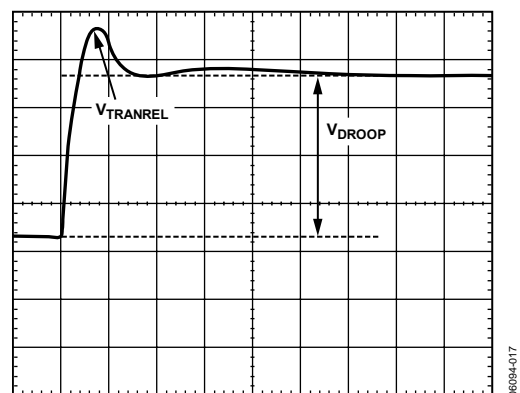

Figure 19. Transient Setting Waveform
20. For load release (see Figure 19), if $V_{TRANREL}$ is larger than the allowed overshoot, there is not enough output capacitance. Either more capacitance is needed, or the inductor values need to be made smaller. When changing inductors, start the design again using a spreadsheet and this tuning procedure.